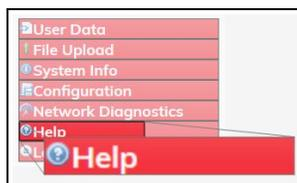

Figure 264: Help link
4. On the **Menu** list, click the **Help** link. Figure 264